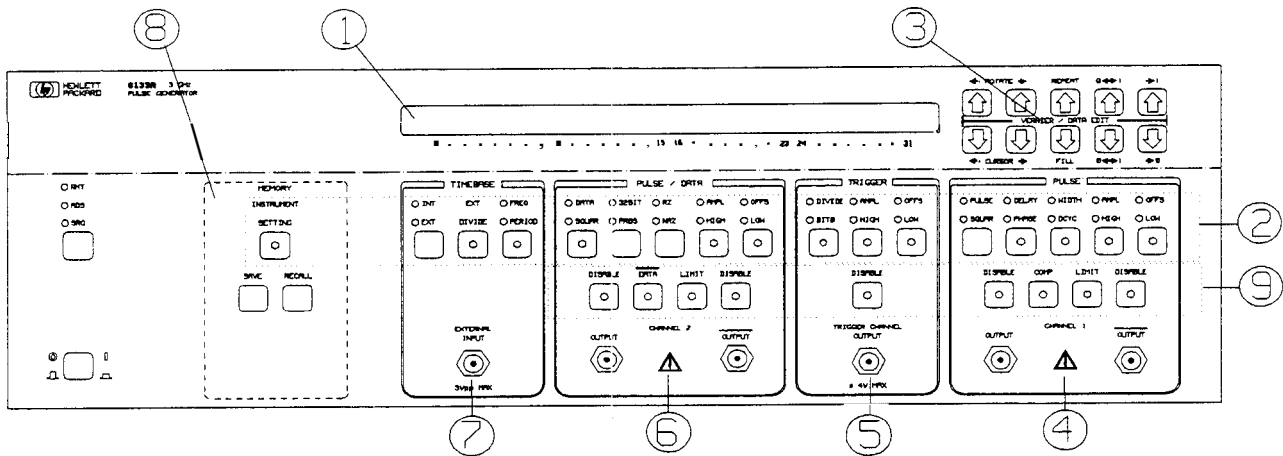

Figure 1-1. HP 8133A Frontpanel overview
Mode keys	Mode keys toggle between different operating modes. They are located in the upper row of keys, see Figure 1-1. The LEDs above the key indicate which mode is selected.
Parameter keys	Parameter keys activate a parameter on the display. They are located in the upper row of keys, see Figure 1-1. Press once to activate the selected parameter indicated by the LEDs above the key. Press again to select and activate the alternative parameter. The LED in the key indicates that the parameter is active in the display.
Control keys	Control keys toggle an output mode on or off. They are located in the lower row of keys, see Figure 1-1. The LED in the key is lit when the mode is on.
- indicated by LEDs in and above a **mode/parameter key** (See Figure 1-1).